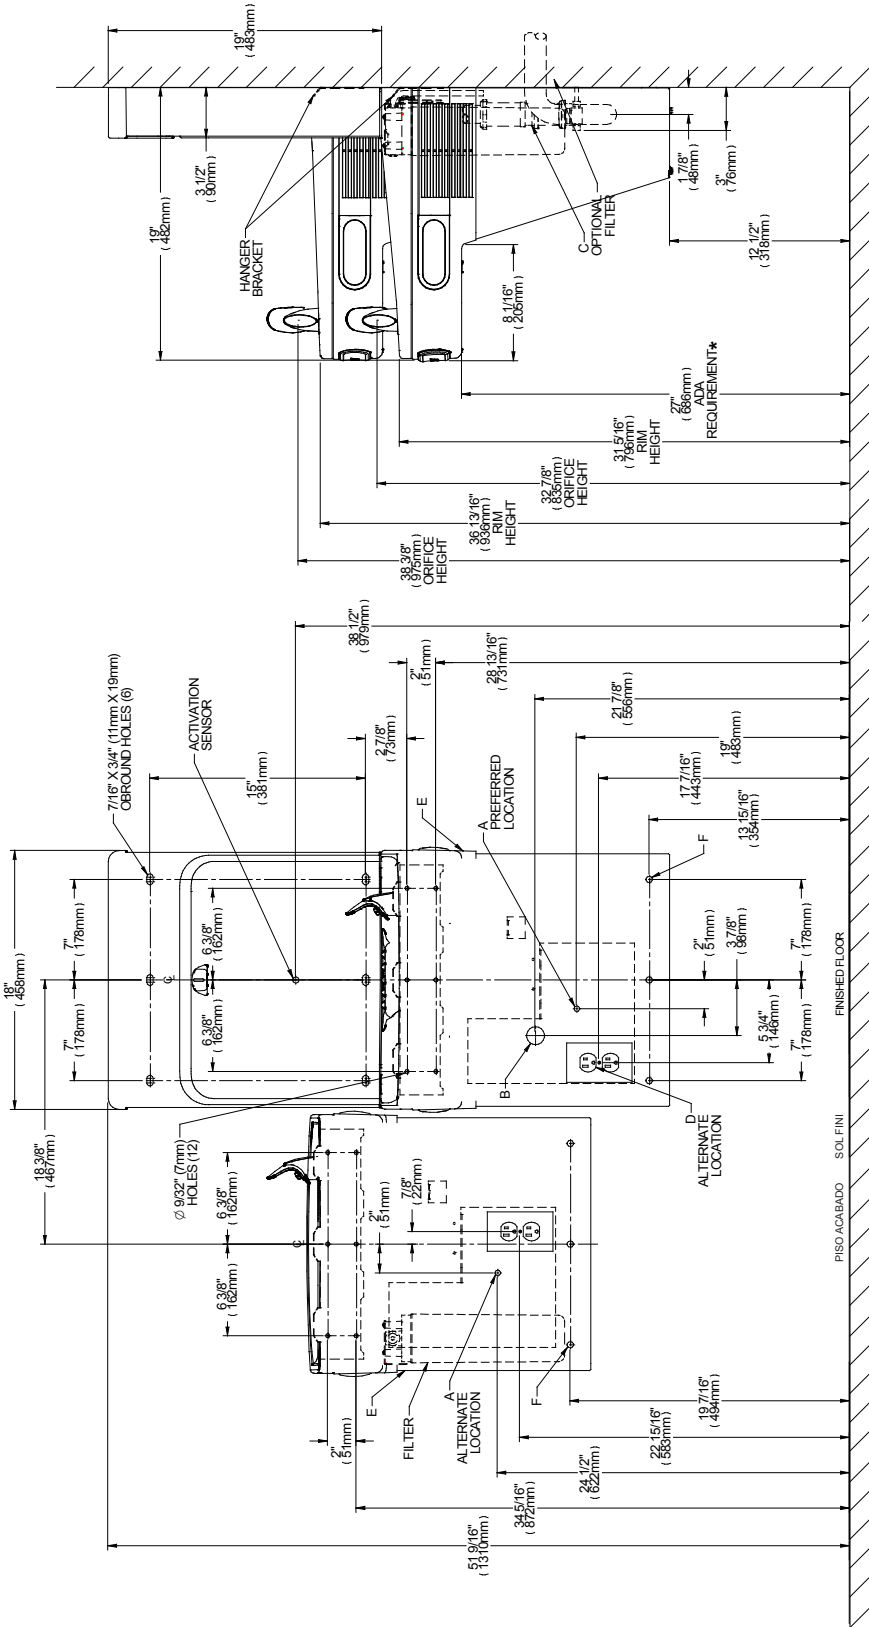
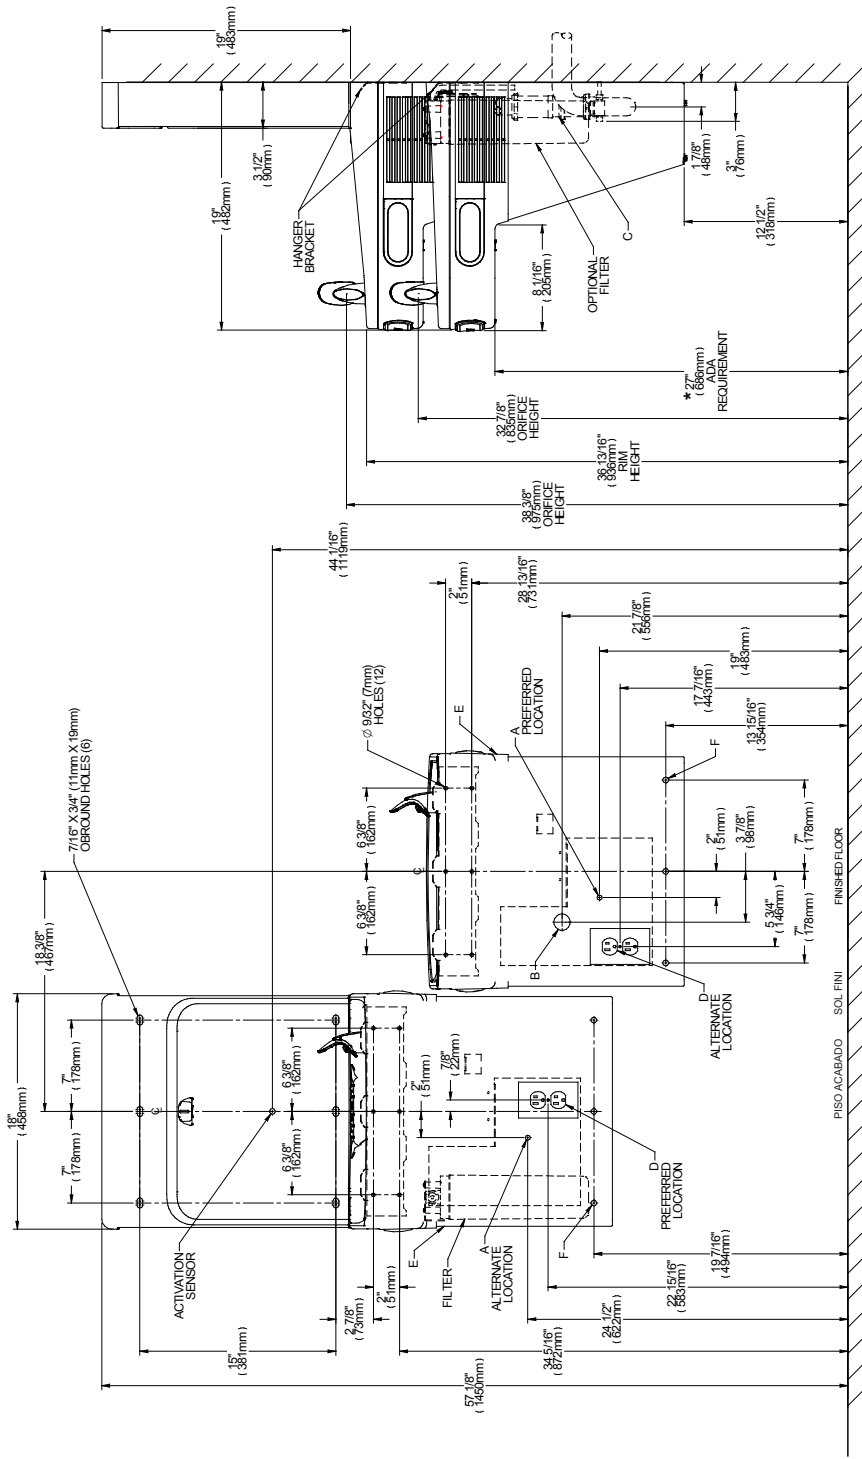

FIG. 1
FIG. 4
- 1) Remove hanger bracket fastened to back of coolers by removing one (1) screw.
- 3) Mount the hanger bracket as shown in Figures 1 (Pg. 2), 2 (Pg.3), 3 (Pg. 4), and 4 (Pg. 5).
- 4) Hang only the refrigerated cooler on the hanger bracket. Be certain hanger bracket is properly in the slots on the cooler backs as shown in Figures 1 (Pg. 2), 2 (Pg.3), 3 (Pg. 4), and (Fig. 4, Pg. 5).
- 5) Remove the four (4) screws holding the lower front panel at the bottom of each cooler. Remove the front panel by pulling straight down and set aside.
- 7) Hang the non-refrigerated cooler on the hanger bracket. Be certain hanger bracket is engaged properly in the slots on the cooler backs as shown in Figures 1, (Pg. 2), 2 (Pg. 3), 3 (Pg. 4), and 4 (Pg. 5).